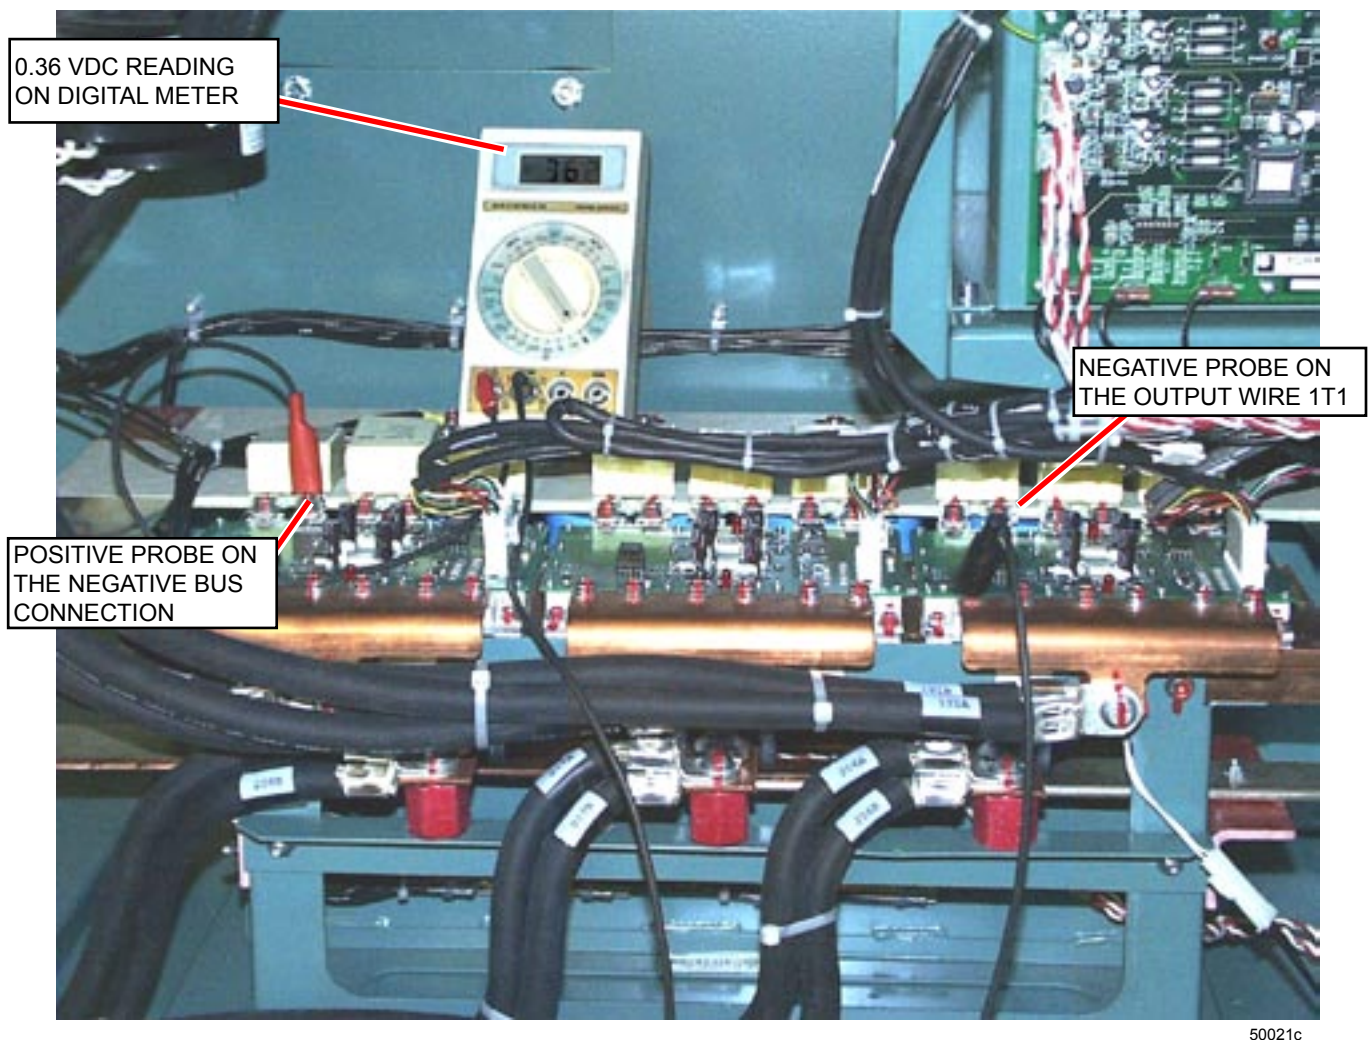

FIG. 19 - 419/503/608 HP DRIVE IGBT MODULE VERIFICATION #3
- Place the positive probe of the meter on the second left hand terminal of the IGBT module. This is the negative bus connection. The analog meter reading will be around 5-10 ohms. The digital meter reading will be around 0.36 VDC. Refer to Fig. 19.